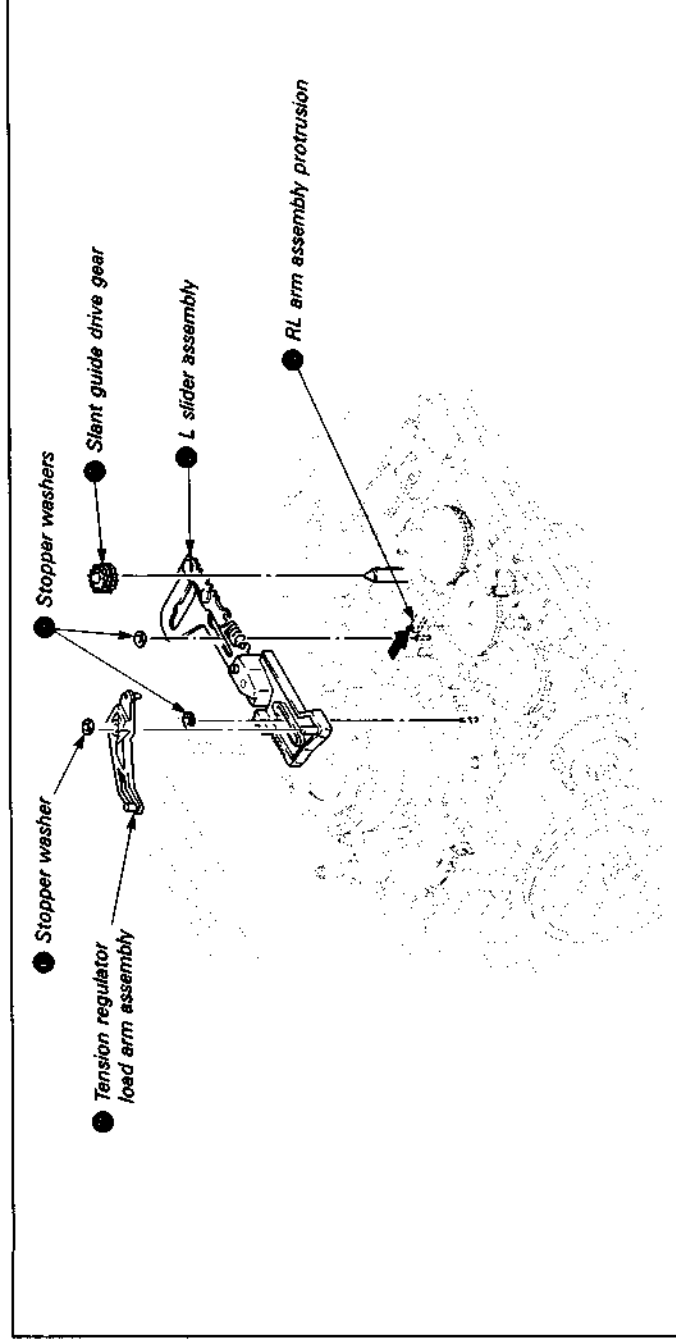

Fig. 7-30.
7-3-11. L Slider Assembly (See Fig. 7-30. ~32.)
- 6) Remove the tension regulator load arm assembly according to 7-3-11., 1. Removal, 8). (See Fig. 7-30.)